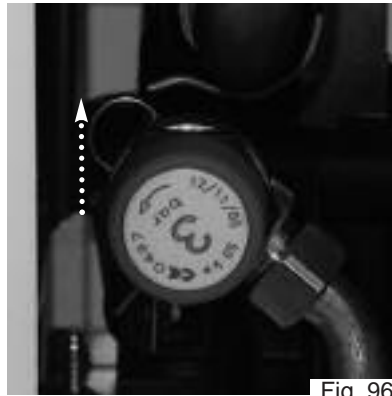

Fig. 96
2. Remove the clip securing the valve (see Fig. 96) and pull it toward you;